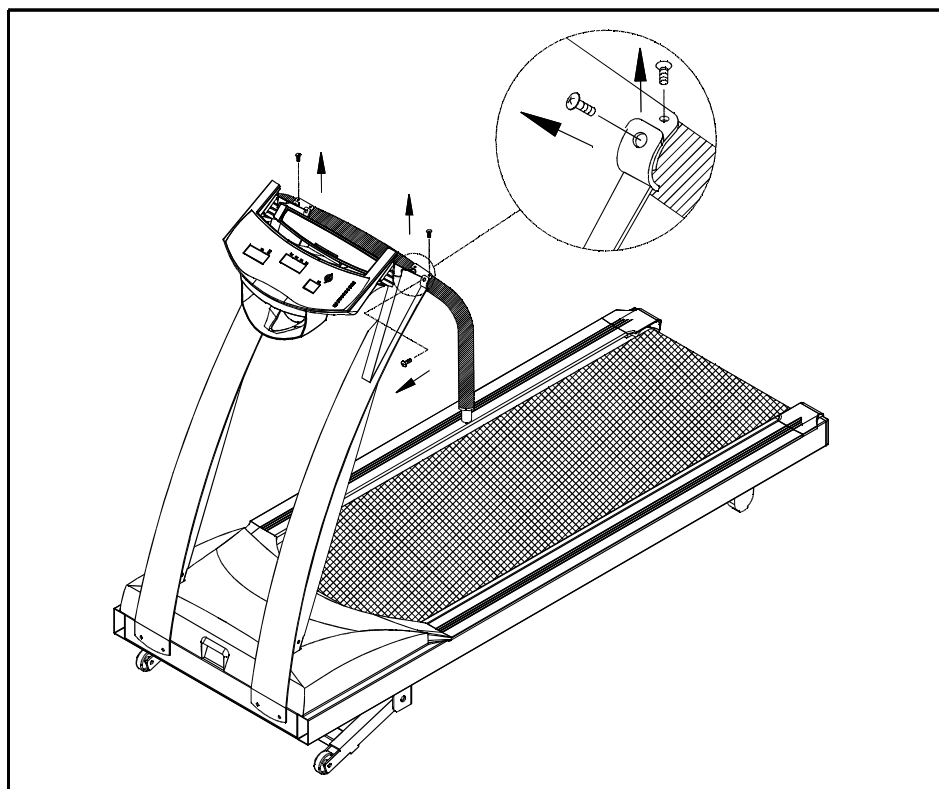

Fig.4
6. Loosen the screws of fixing the handlebar and remove the steel plate. (see Fig. 4)
Please note: The screws to handlebar (Fig.4) are special provided by manufacturer. Do not attempt to substitute any other screws. Any questions, please contact your dealer.